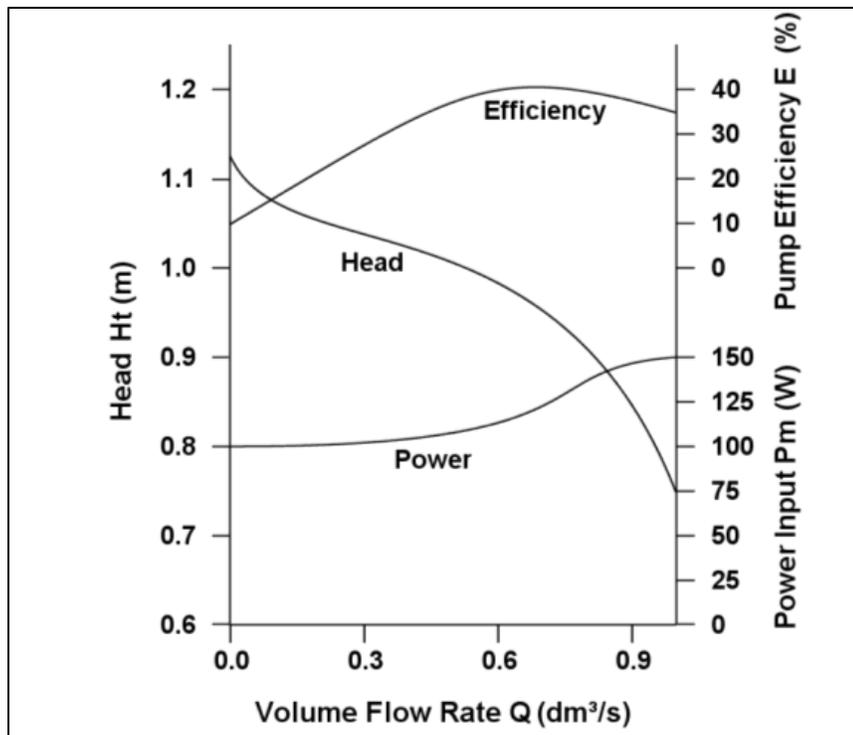

Figure 2 Examples for Pump Performance Curves
Each of these parameters is measured at constant pump speed, and is plotted against the volume flow rate,  $Q$ , through the pump. An example of this graphical representation of pump performance is given in Figure 2, below.
- 4) Compare the shapes of the curves obtained to the example presented in Figure 2. Discuss any similarities and differences between the example presented and Pump1.